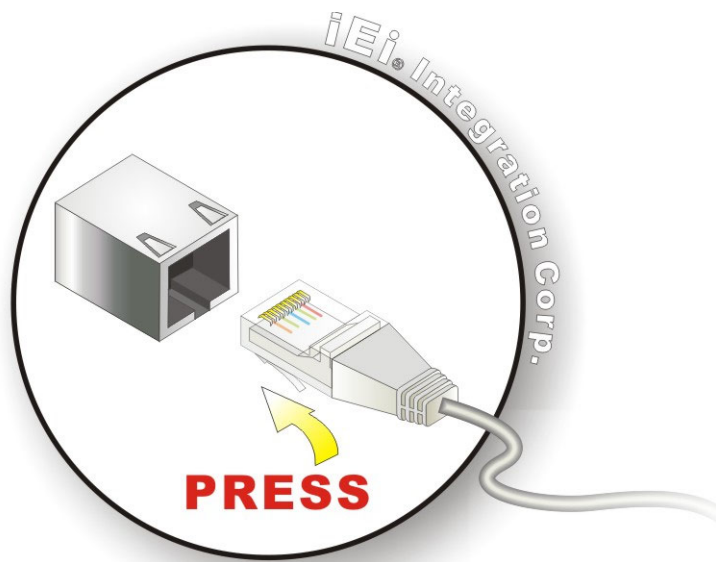

Figure 4-20: LAN Connection
Step 2: Align the connectors. Align the RJ-45 connector on the LAN cable with the RJ-45 connector on the NANO-CV-D25501/N26001. See **Figure 4-20**.